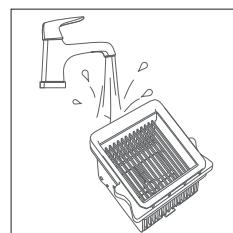

Fig. 18 – Cleaning the filter
- ▶ Also clean the EPA 10 filter under lukewarm running water (see Fig. 18).